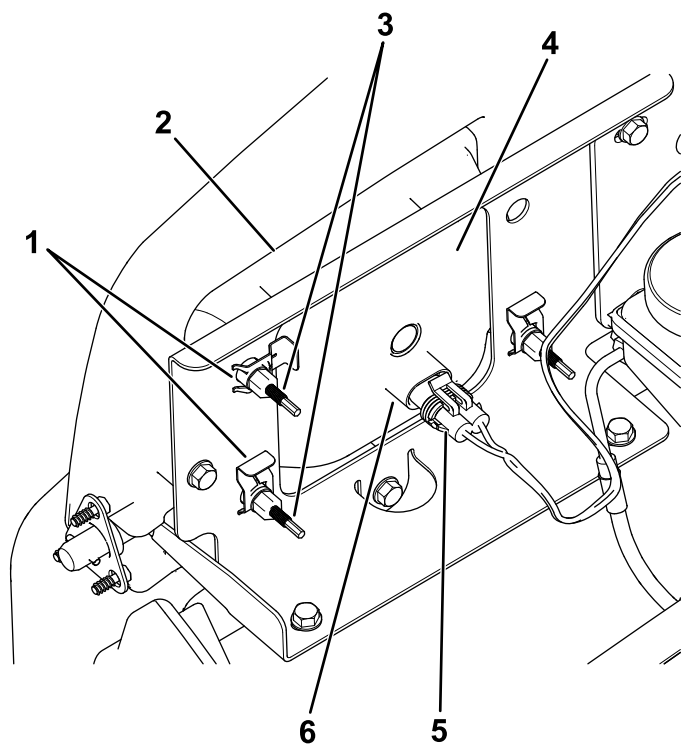

Figure 49
3. Disconnect the electrical connector for the harness from the connector of the lamp assembly (Figure 49).
- Remove the speed clips that secure the headlight to the headlight bracket (Figure 49).
- Remove the headlight assembly by moving it forward through the opening in the front bumper (Figure 49).
- Install the new headlight through the opening in the bumper (Figure 49).
- Connect the electrical connector for the harness to the connector of the lamp assembly (Figure 49).
- At the back of the headlight assembly, rotate adjustment screws (Figure 49) to pivot the headlight assembly and align the position of the cast beam.